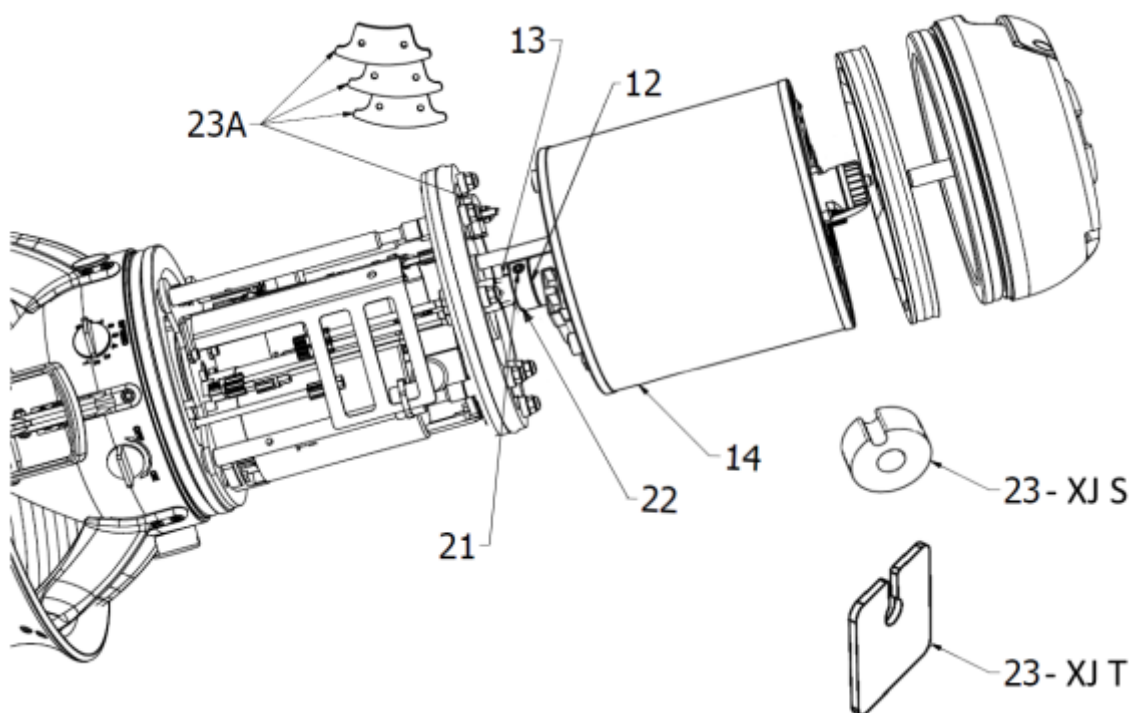

Fig.8 (view of the Scooter without the outer casing)
By adding the sea ballast (23 - 23A, Fig.8), supplied, the Scooter can be adapted for use in salt water.
As shown in fig. 8, the XJ Scooter (both the XJT model and the XJS model) is equipped with the 23A ballast. If necessary, based on the salinity of the water, it is possible to further adjust the trim of the scooter by also adding the ballast 23.
- If it is necessary to insert the ballast 23A: unscrew the two captive nuts with wrench N ° 7, insert the ballast (s) and screw the captive nuts (see Fig. 8). (If ballast 23A is already present, it must not be removed).
It is also possible to vary the trim with respect to the one set in the factory, by moving the battery along the pin (13 - fig. 8):